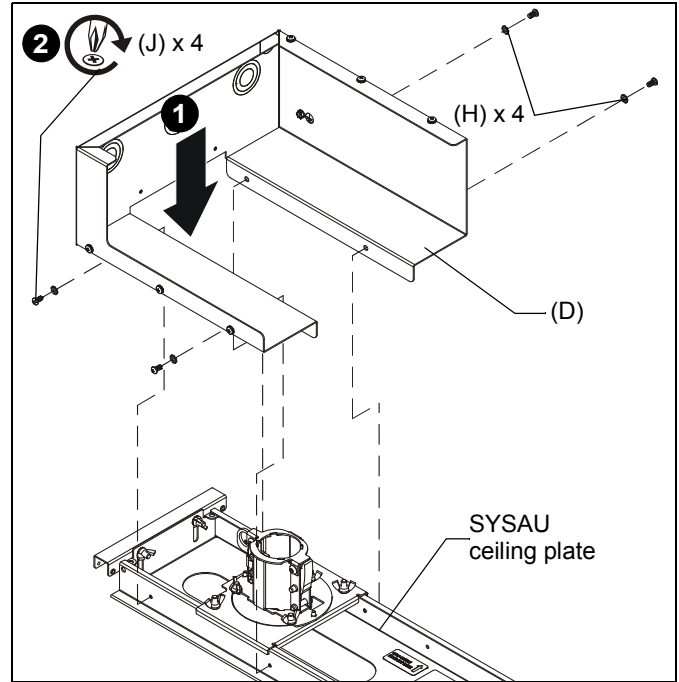

**Figure 2**
3. Install one grounding screw (K) into box body-right (E) and -left (D). (See Figure 1) and (See Figure 2)
4. Loosely install two 10-24 x 3/8" Phillips pan head screws with external teeth (F) into the top edge of the box body-right (E). (See Figure 2)
5. Loosely install two 10-24 x 3/8" Phillips pan head screws with external teeth (F) into the side edge of the box body-right (E). (See Figure 2)